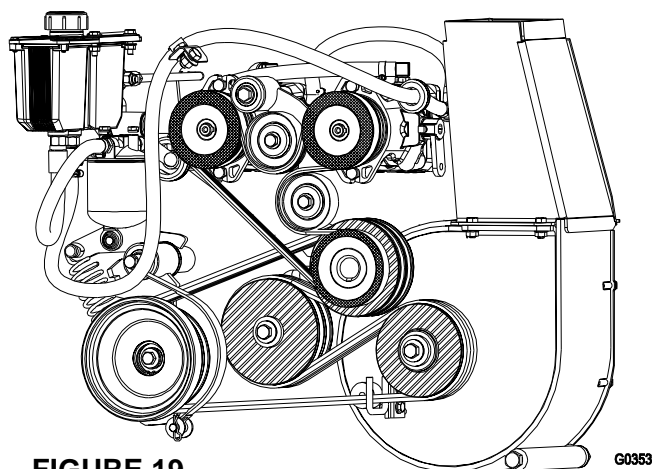

FIGURE 19
- i) Measuring from the blower pulley as a baseline, move the engine and jackshaft until the rear surface of all 3 pulleys are aligned within 1/32"-1/16" (0.8 - 1.6 mm). Use a straight edge to align all 3 surfaces. See Figure 19.
- c) Using a straight edge, align each pump pulley with the engine pulley by sliding along the pump shaft. See Figure 19.